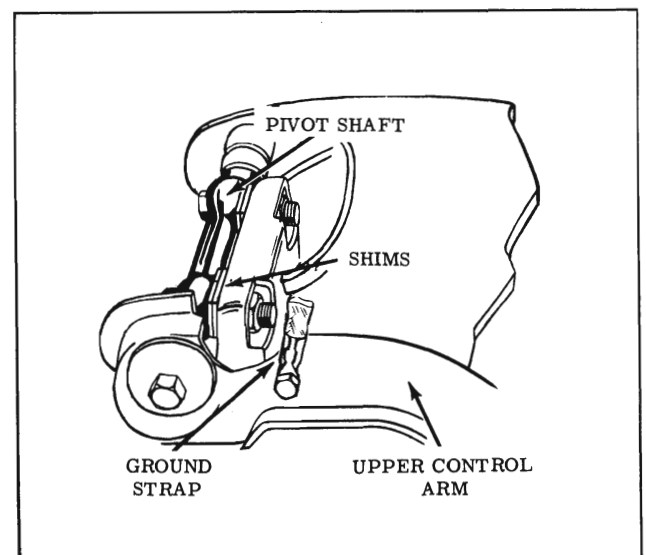

Fig. 5-11 Upper Control Arm Mounting
5. Using a 7/8" deep flex socket with a long extension, remove the pivot shaft to frame attaching nuts from under the fender. (Fig. 5-11) Remove wheel alignment shims, control arm and pivot shaft assembly from car.